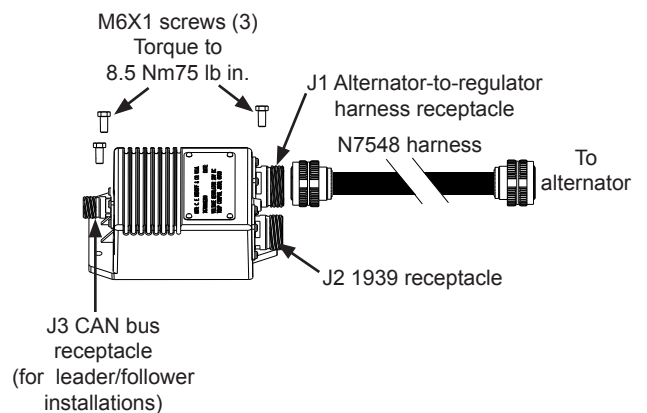

Figure 3: Remote Regulator Installation
3. Using a CEN N7548 harness, connect alternator to J1 receptacle on regulator. See Figure 3.
4. If used, connect vehicle J1939/temperature-voltage sense harness to J2 receptacle on regulator. See Figure 3. Harness sold separately.